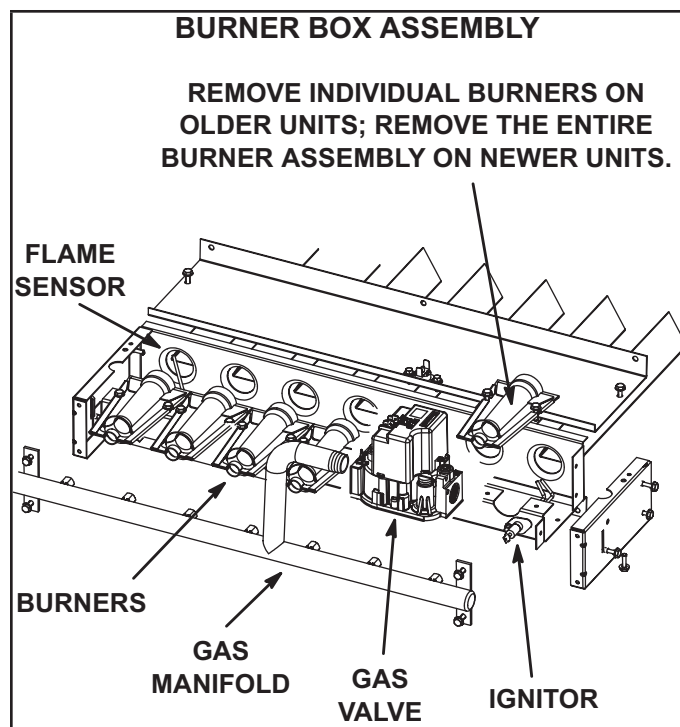

FIGURE 28
- 6 - Replace burners and screws securing burner. See FIGURE 28.